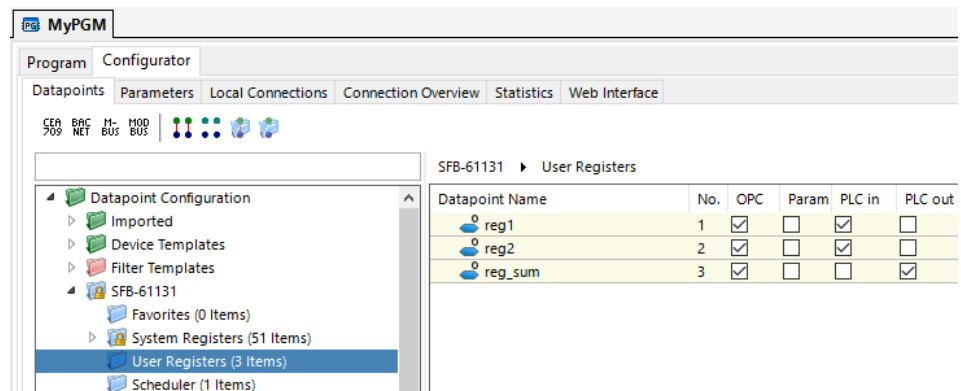

Figure 43: Setting PLC in and out on data points in the Configurator
- Open 'MyPGM' and go to the **Configurator** tab. This opens the Configurator for this IEC 61131 program. Create data points as needed, e.g., reg1, reg2, reg\_sum. Set **PLC in** on reg1 and reg2 and set **PLC out** on reg\_sum as shown in Figure 43. Click on **Save** in the toolbar.